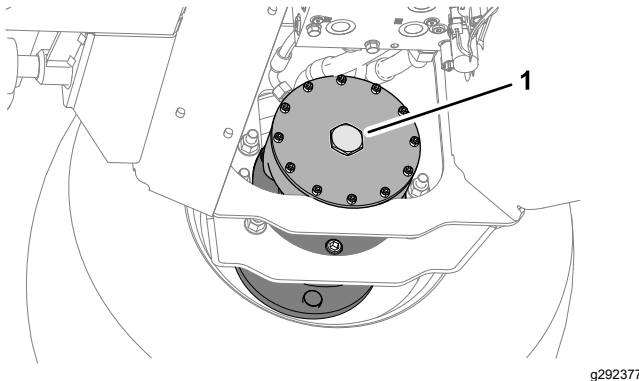

Figure 49
2. Install the hex plug into the motor end plate (Figure 49).